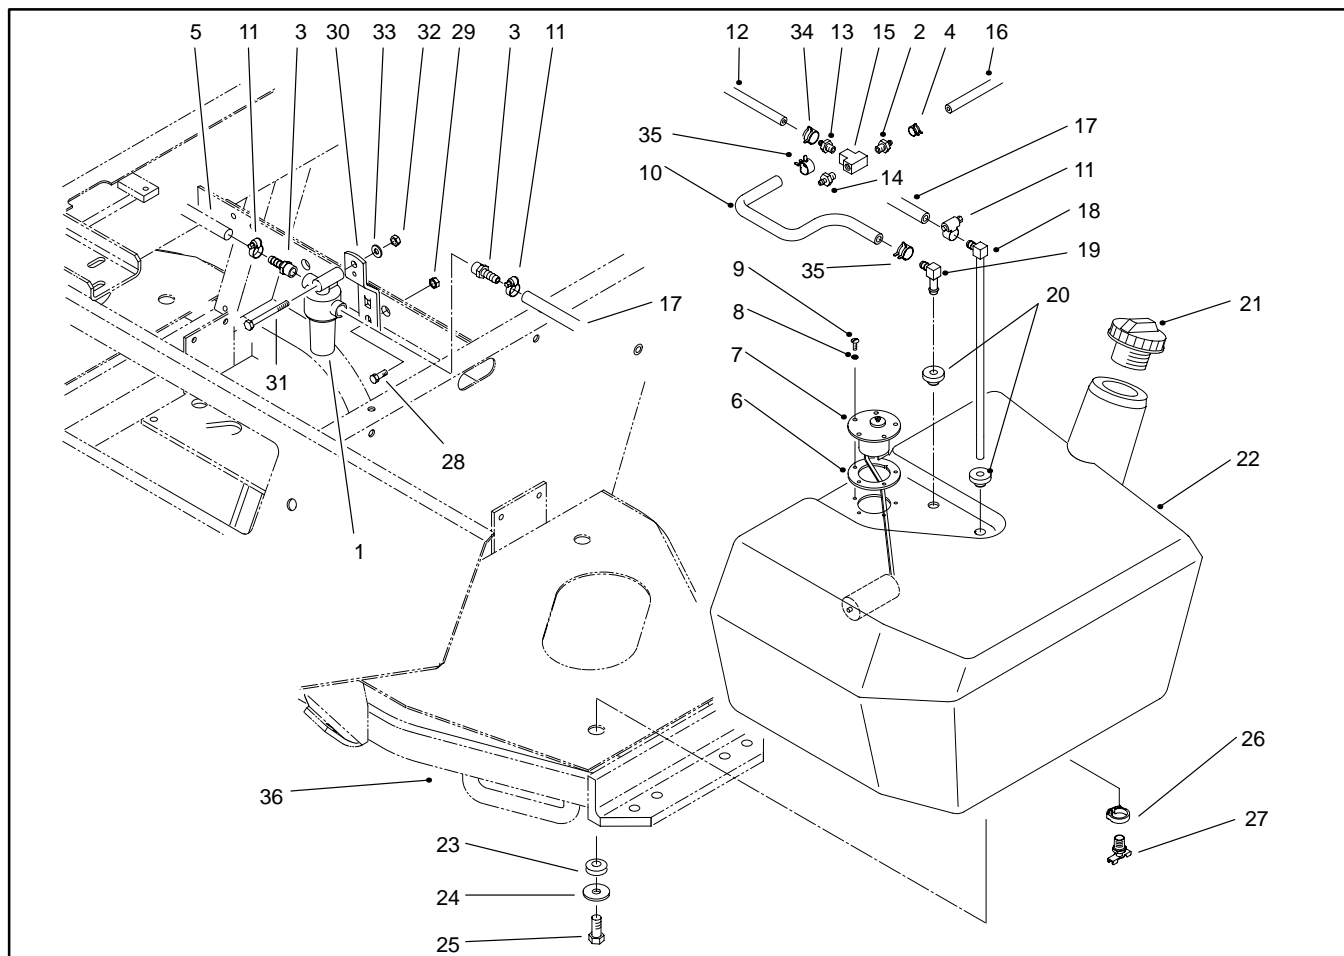

Figure 19
5. Remove fuel tank from the frame using Figure 19 as a guide.
Fuel Tank Installation (Fig. 19)
1. Install fuel tank to the frame using Figure 19 as a guide.